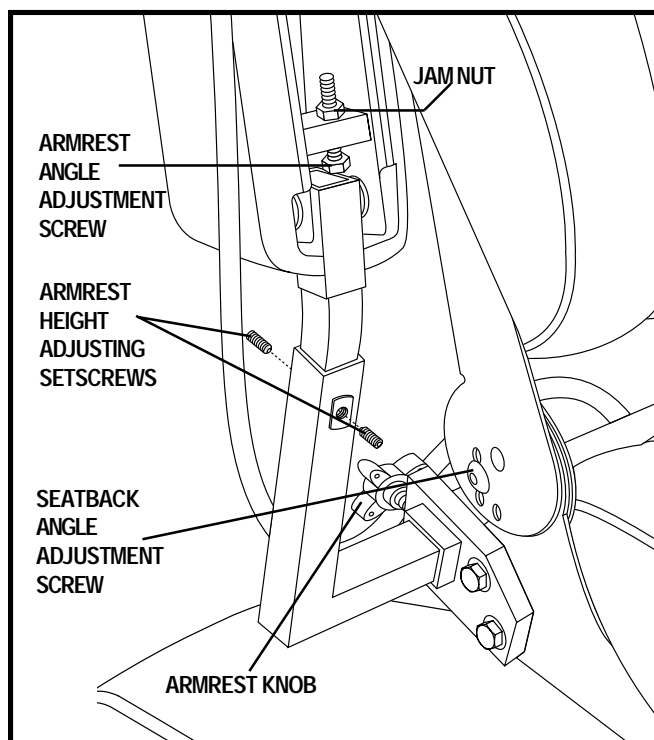

Figure 23. Seatback and Armrest Adjustments
1. Remove the seatback angle adjustment screws from each seat hinge. See figure 23.
1. Locate the two armrest knobs on each side of the armrest receiver bracket. See figure 23.
1. Loosen the two setscrews located on the armrest receiver. See figure 23.
2. Loosen the jam nut. See figure 23.